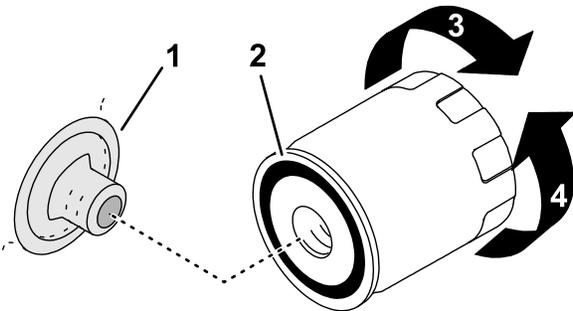

Figure 78
1. Rotate the oil filter counterclockwise to remove it (Figure 78).
5. Apply a thin coat of oil to the gasket of the filter (Figure 78).
6. Thread the oil filter onto the filter adapter until the rubber gasket contacts the filter adapter, then tighten the filter an additional 1/2 turn (Figure 78).
1. Install and torque the 2 spark plugs (Figure 78).